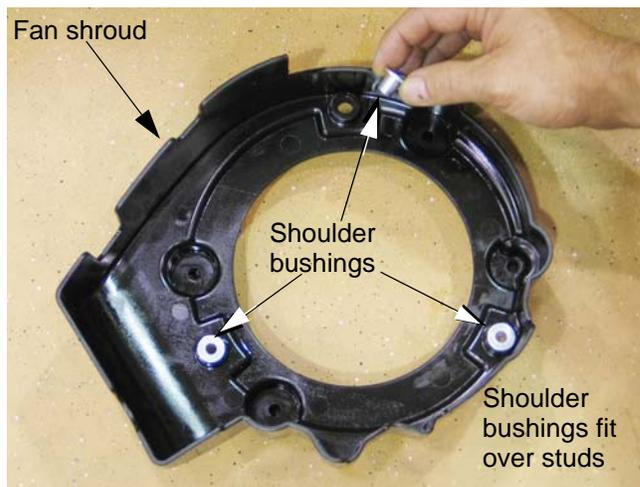

Figure 7.15
3. Lift the fan shroud off of the three studs that locate it. See Figure 7.15.